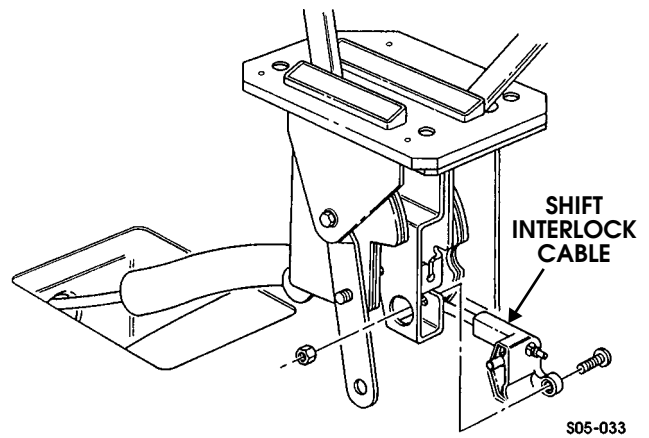

Figure 5-51: Interlock Cable Attachment
10. Disconnect interlock cable at shifter (Figure 5-51).
3. Work interlock cable through boot and connect cable to shift housing (Figure 5-51).